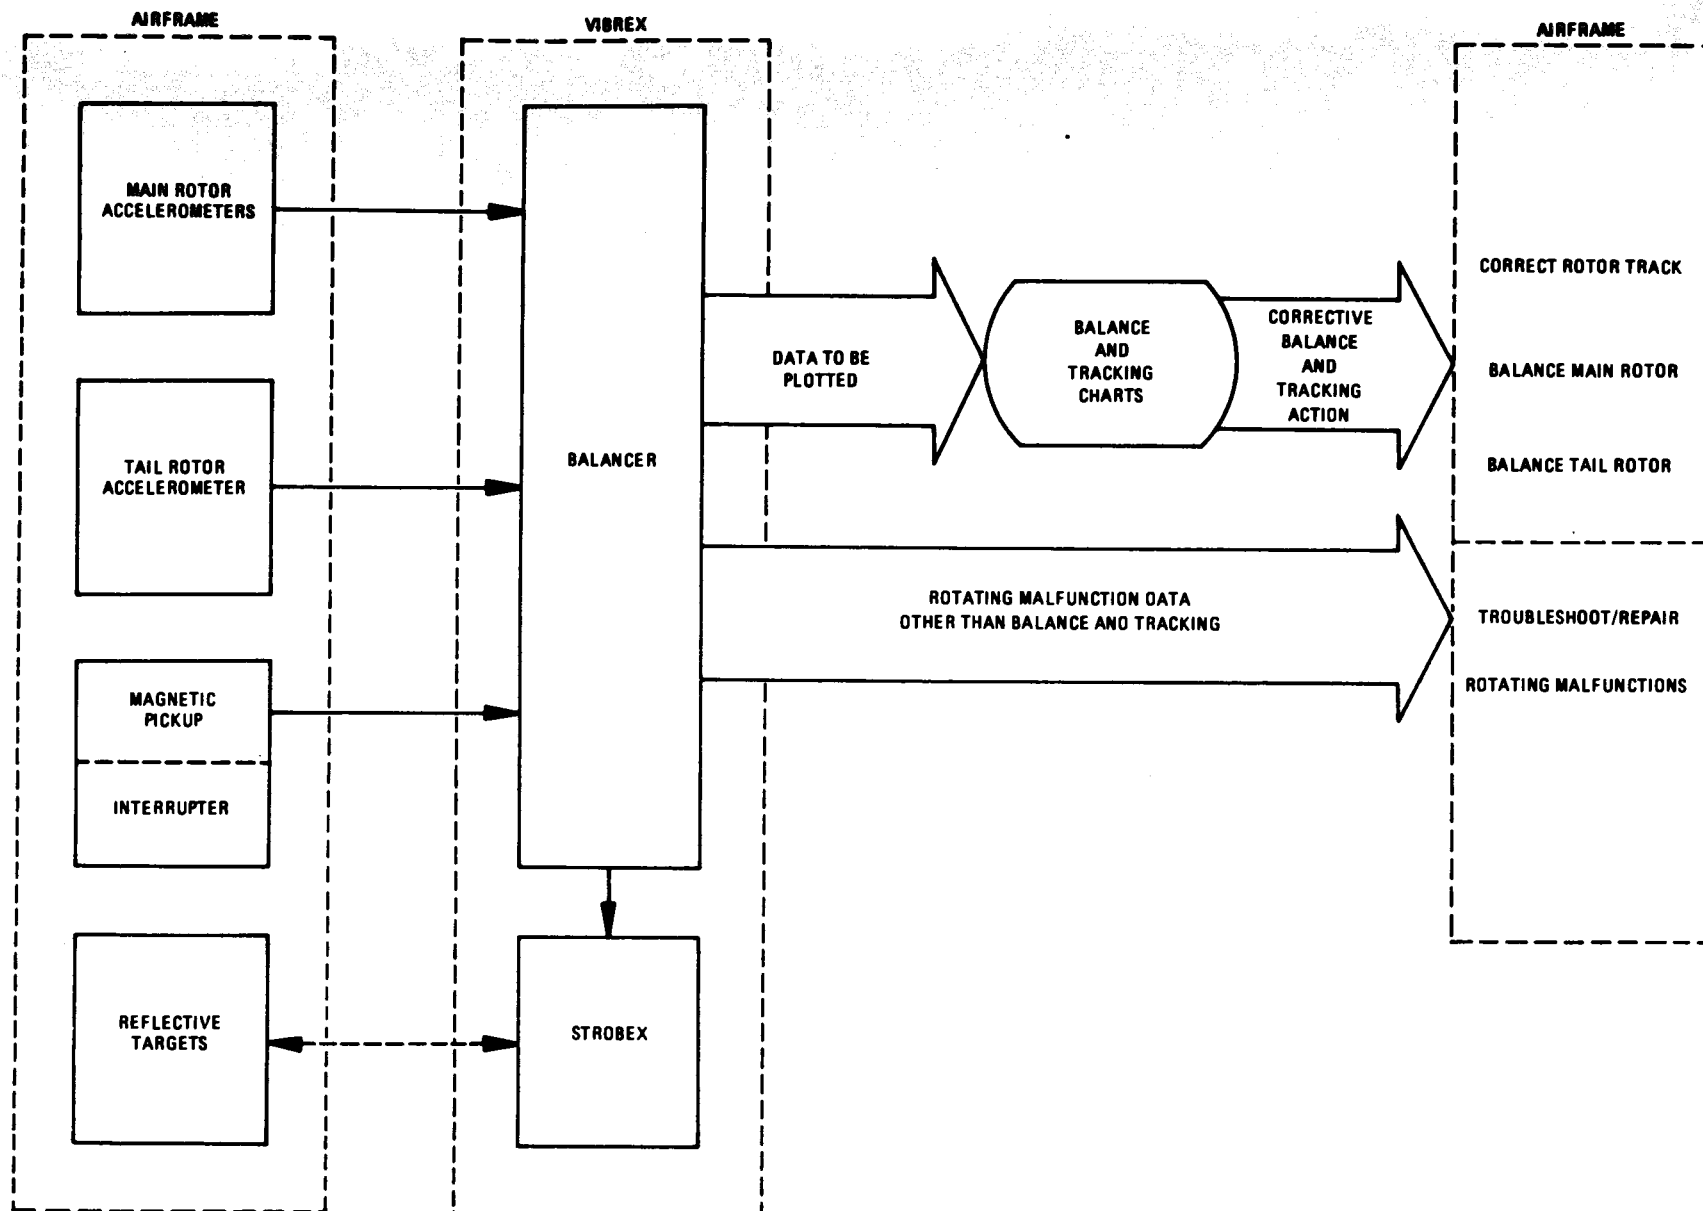

Figure 2-4. VIBREX/Airframe Interface
**2-4. Tuning the Balancer.** The following paragraphs describe the use of the VIBREX in performing actual vibration measurements. Figure 2-4 illustrates the relationship of the Balancer to airframe mounted components.
**2-6. Use of the Strobex.** The Strobex has a trigger in the pistol-grip handle for dc power switching, a five-position function switch, and a ten-turn RPM dial to adjust the flash rate. Figure 2-4 illustrates the relationship of the Strobex to airframe mounted components. Observe steps a through c when using the Strobex.